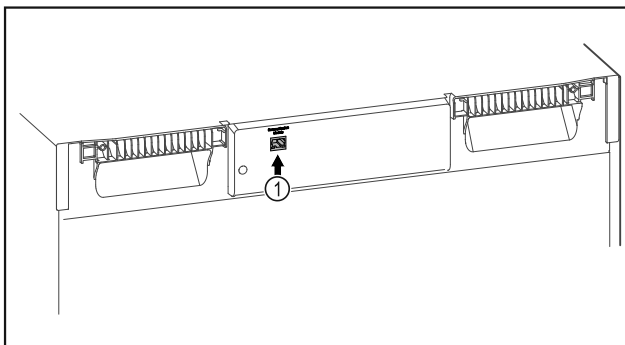

Fig. 94
- SmartModule Fig. 94 (1) is in use.